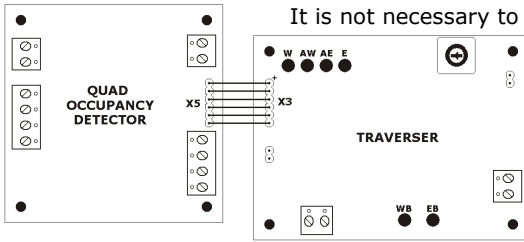

Figure 3
It is not necessary to use our Quad Occupancy Detector, but The Traverser is designed for easy use with one. The detection input header, labelled **X3** in Figure 3 and on the board, is identical to the output header on the Quad Occupancy Detector, labelled **X5** in Figure 3 and on the detector. The Traverser supplies 5 volt DC power to the detector on pins 1 and 6.
The detection information is on pins 2 to 5, corresponding to blocks 1 to 4 on the detector. The Traverser's block indication LEDs are labelled to show pin 2 (block 1) as **West (W)** in Figure 3, pin 3 (block 2) as **Approach West (AW)** in Figure 3, pin 4 (block 3) as **Approach East (AE)** in Figure 3, and pin 5 (block 4) as **East (E)** in Figure 3).
When the Traverser is powered up and the STOP header is not shorted, operation will begin after a one second pause. The initial direction will be eastbound unless the east end block is occupied, then it will be westbound. When the green direction indicator LED comes on (**WB** or **EB** in Figure 3), track voltage will begin to rise and cause the train to accelerate in the initial direction. Since most motors have a minimum starting